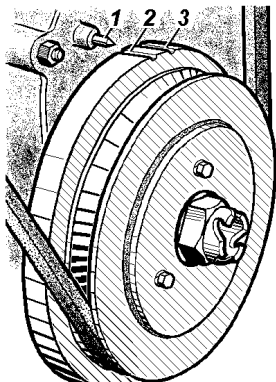
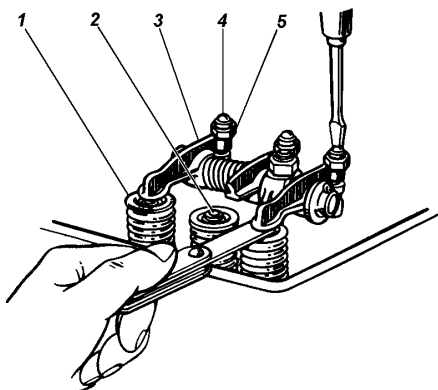

Fig. 24. Timing Marks on Crankshaft Pulley:
Fig. 25. Adjusting Clearance between Rocker Arm and Valve:
- using mark (Fig. 24) on the crankshaft pulley, set the piston of No.1 cylinder at the TDC on the compression stroke and check the clearance between the rockers and valves of No.1, 2, 4, 6 with the feeler gauge. In the case of an incorrect clearance, screw out lock nut (Fig. 25) of adjusting screw and rotating the letter with a screwdriver, set a required clearance by means of the feeler gauge. Then, holding the adjusting screw with the screwdriver, tighten the lock nut and check the clearance for correct setting;